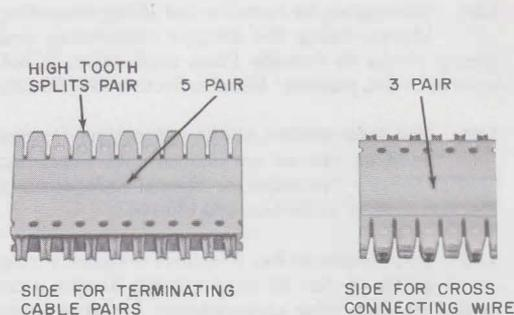

Fig. 3—88-Type Connecting Block
2.04 The 88-type connecting block (Fig. 3) consists of a flame retardant, plastic-molded strip equipped with double-ended, quick-clip metal connectors. When mounted on the wiring block, the bottom end makes connection with the cable conductors in the index strip, and the top end provides connections for cross-connect wires. They